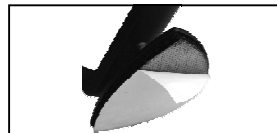

Fig. 3
3.With the “Hook” half of the hook & loop fastener attached to the “Loop” half you just attached to the monitor, peel off the backing paper.(Fig. 3)